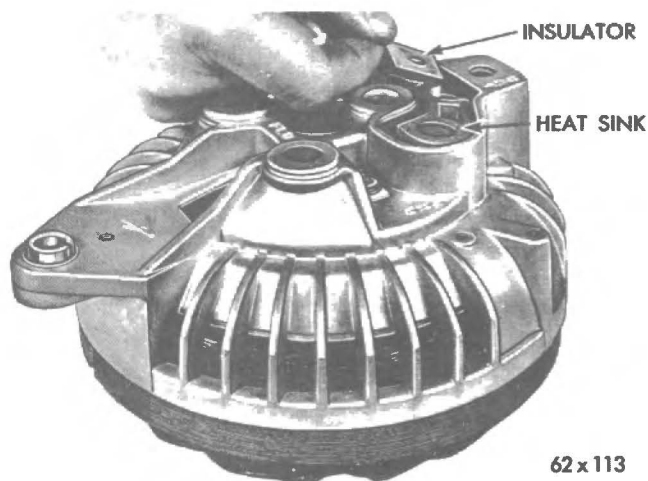

Fig. 33 - Removing or installing heat sink insulator.
(6) Support the end shield and tap the rotor shaft with a plastic hammer to separate the rotor from the end shield.
(8) Remove the D. C. output terminal nuts and washers and remove terminal screw capacitor.
(9) Remove the insulator (Fig. 33).